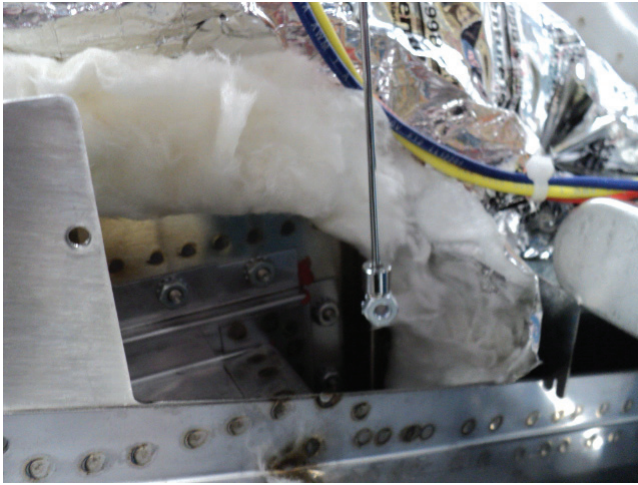

Figure 19
- Using the telescoping magnetic pickup tool supplied with kit place a nut on the magnetic end and line it up with a stud. Slowly turn the nut onto the stud with your other hand, then remove magnetic tool (Figure 19). Repeat this for the remaining nuts located between the cavity and waveguide.